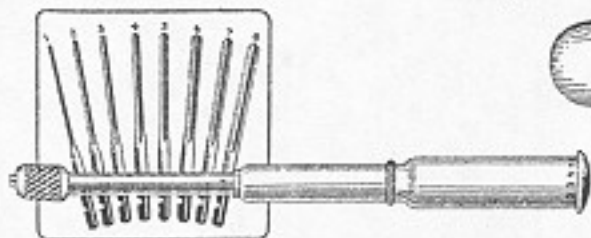

Fig. 163. Automatic drill and drill points.
63. Boring with Automatic Drills. Automatic drills are spiral-driven tools used for rapid boring of small holes (Fig. 163). A downward pressure on the handle revolves the bit. A spring inside the handle brings it back to its original position. Each drill is usually furnished with eight drill points from $\frac{1}{16}$ to $\frac{11}{16}$ in. in diameter by 64ths. These drill points are fluted and bore well